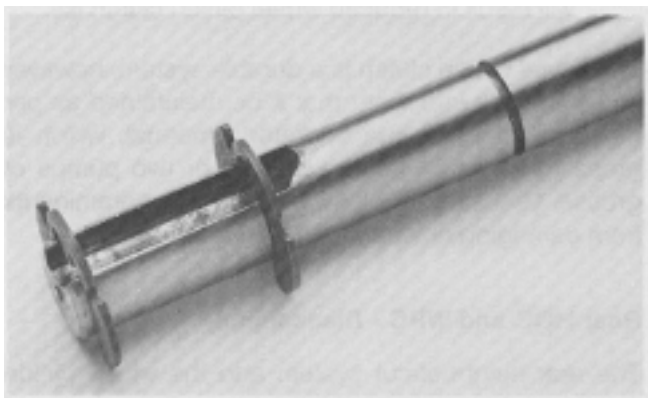

Figure 35
6. Check the innermost groove on the output shaft (located 5.7 cm (2-1/4") in from the end of the shaft) making sure that the O-ring seal is present and in tact. This seal is important to keep grease in and contaminants out. Replace if necessary. See Figure 35.